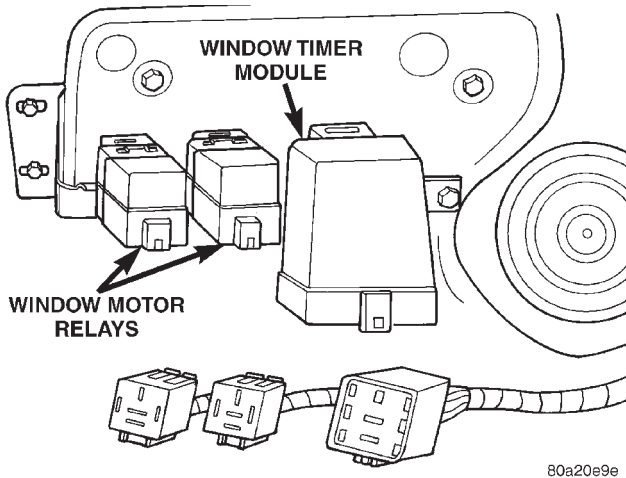

Fig. 1 Power Drop Relay Assembly
When testing for a voltage signal, use a digital voltmeter, because the signal will last only 280 to 380 milliseconds. Place the ignition switch in the run position with out engine running. Refer to Group 8W, Wiring Diagrams circuit and pin locations (Fig. 1).
- (1) Remove door trim panel, refer to Group 23, Body for removal procedures.
- (2) Disconnect the wire connectors (Fig. 1).
- (3) Remove the attaching screws.
- (4) Remove relay assembly.